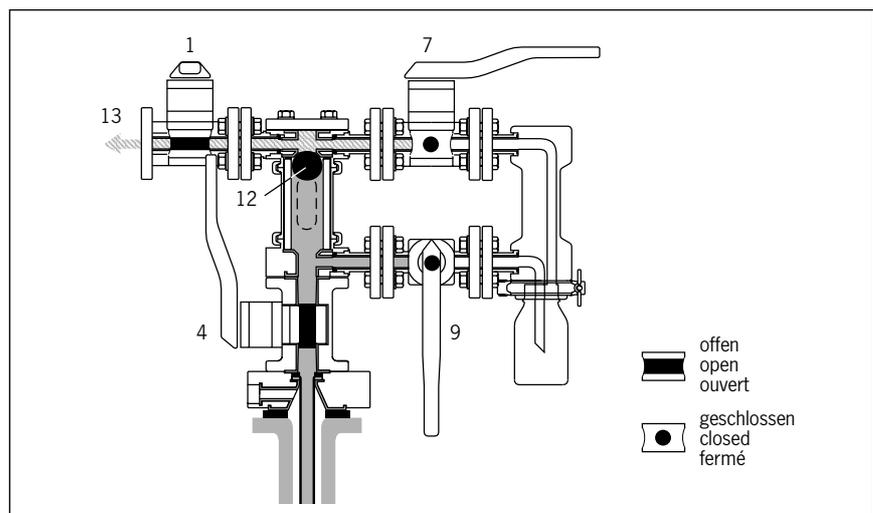

Figure 3 Valve position during sampling
- ▼ Slowly open main valve (Fig. 3, item 4).
- ▼ Slowly open secondary valve (Fig. 3, item 1) at the upper flange. The vacuum transports the liquid medium to the sight glass through the main valve and the suction tube inside the dip pipe.
- ▼ The hollow ball made of PTFE (Fig. 3, item 12) floats on the rising liquid level until it interrupts the vacuum line in the ball seat.